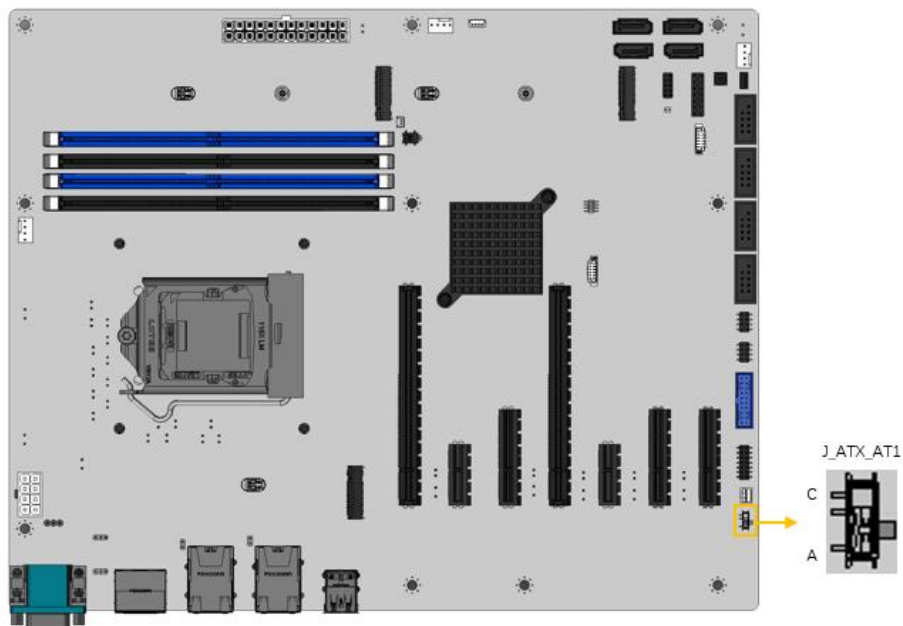

Figure 3-6: AT/ATX Power Mode Switch Locations
- CN Location:** See Figure 3-6